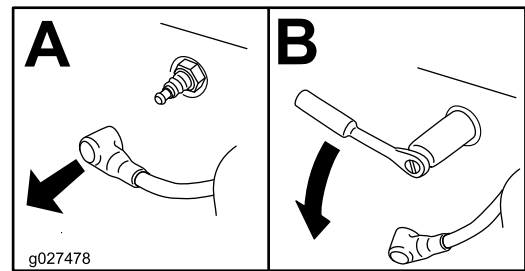

Figure 37
4. Remove the spark plug (Figure 37).